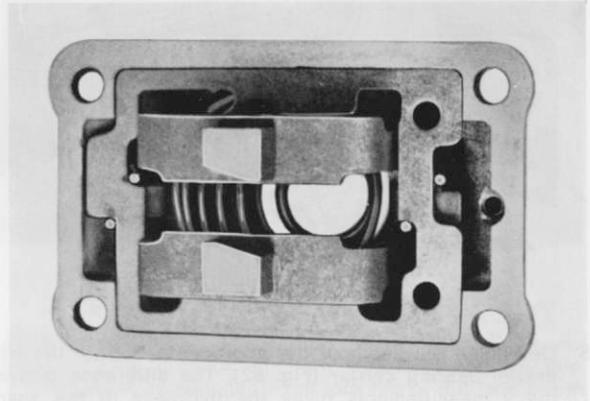

Fig. 69
1.5 Place selector gate (627) with the 2 bores to the breather hole over the interlock swing and place on the shift turret (629) (Fig. 69).